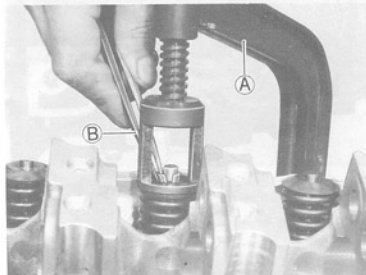

Fig. 4-122 B Forceps (09916-84510)
To fit valve cotters to the groove provided on the end portion of each valve stem, be sure to use the valve lifter (A) (09916-14510): compress the valve spring with this lifter and mount the cotter pieces, as shown in Fig. 4-122.